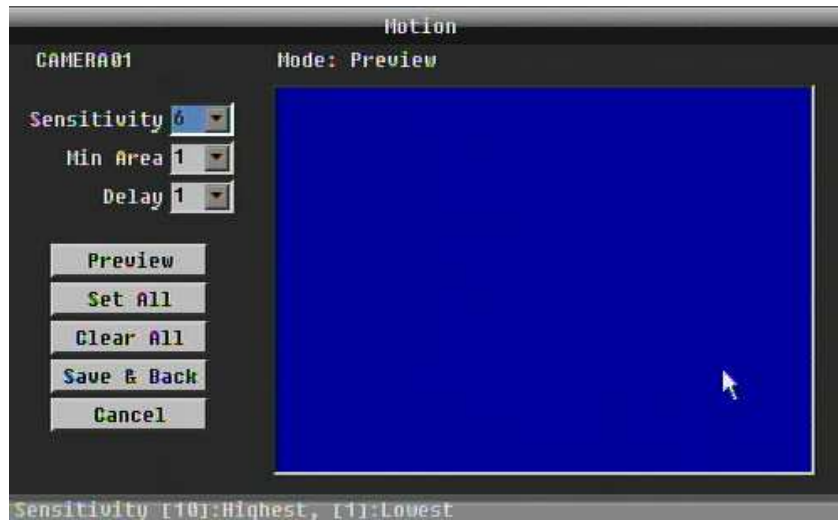

Figure 5-5 Camera Menu – Motion Grid Setting
**Edit Motion Grid:** Press this button to edit the motion grid (See Figure 5-5 Camera Menu – Motion Grid Setting ).